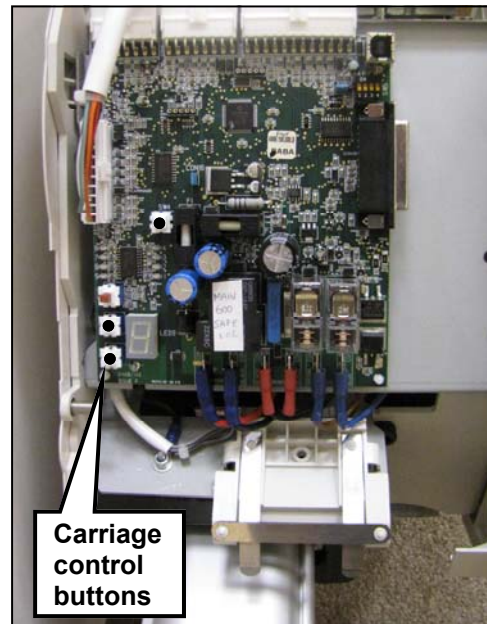

Figure 2
- Using a suitable tool, (suggest screwdriver minimum length 100mm or 4”), gently lift the OSG actuating arm whilst driving the stairlift in a downward direction **via the ECU mounted carriage controls buttons** Fig 2, until the OSG switch cuts out the stairlift.